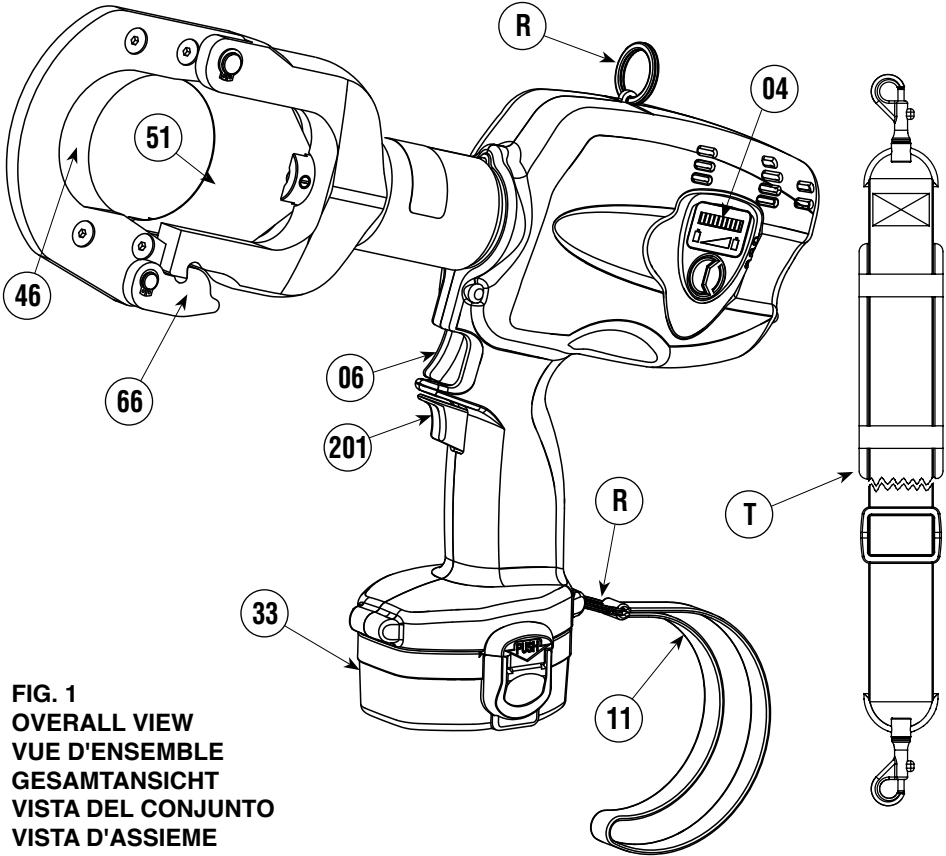

FIG. 1
2. INSTRUCTIONS FOR USE (Ref. to Fig. 1)